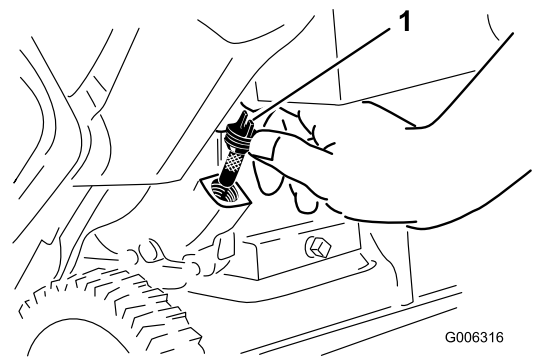

Figure 22
7. Unscrew the dipstick and remove it (Figure 22).